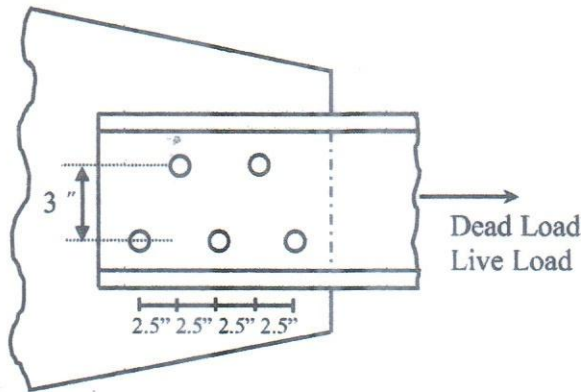

**Figure 1**
- Determine the tension capacity (P) of the angle L8x6x1/2 attached to a 3/8-inch-thick gusset plate with the bolt configuration shown in Figure 1. The short leg of the angle is connected to the gusset plate. Consider all limit states and assume uniform tension stress. The material is A36 ( $F_y = 36$  ksi and  $F_u = 60$  ksi) steel and bolts are 1/2 -inch dia. with standard holes. Follow AISC-ASD approach. (24)